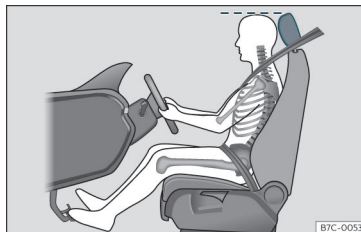

Fig. 71 Correct head restraint position for the driver.
- Adjust the head restraint so that its upper edge is at the same level as the top of your head, or as close as possible to the same level as the top of your head >>> **Fig. 71**.